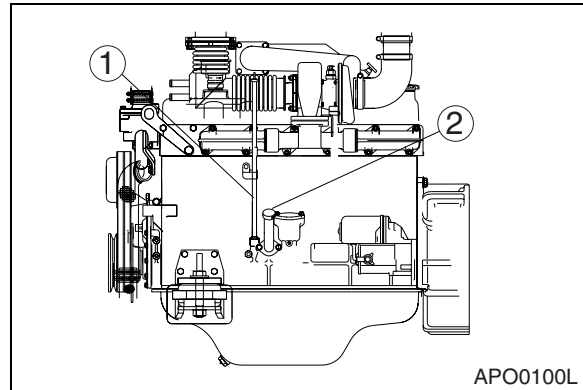

Figure 51
4. Fill engine with correct oil through oil fill port (2, Figure 51). Refer to Lubrication Table of this manual for recommended oil for the operating conditions.
6. Shut down engine. Look for signs of leaks at filter. Recheck oil level using dipstick (1, Figure 51).